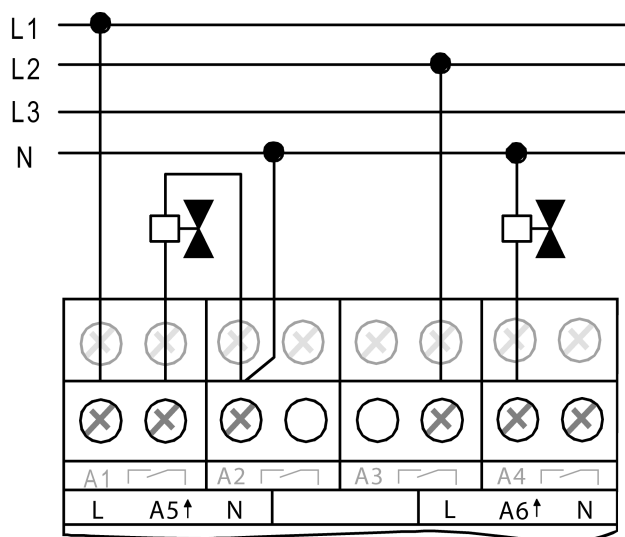

Figure 5: Electrical connection for electrothermal valve drives
- Connect electrothermal valve drives as shown in the wiring example (Figure 5)
- i** The neutral conductor terminals (marking "N") next to the electronic switching outputs are intended exclusively as connection aids for the neutral conductors of the valve drives. The terminals are not connected in the room actuator to any voltage potential or any other connecting terminal (line terminal posts), and can thus be used optionally (Figure 5).